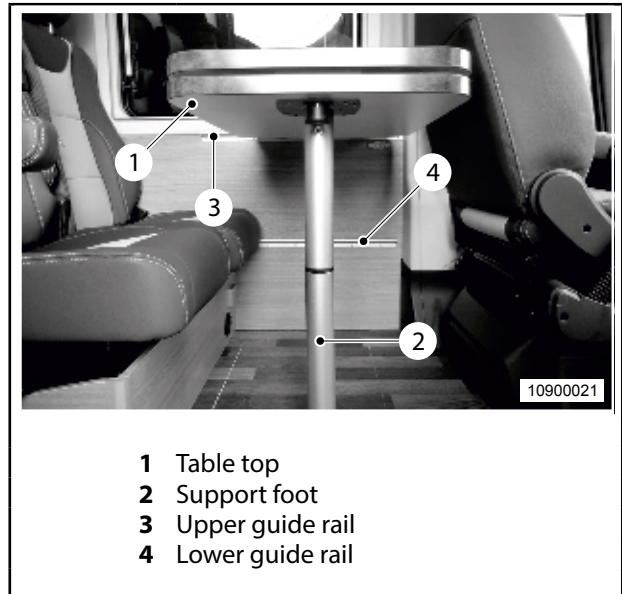

Fig. 45 Converting hook-in table into sleeping berth
1. Raise table top (Abb. 45, item 1) and remove lower part of support foot (Abb. 45, item 2).
2. Unhook table top (Abb. 45, item 1) from top guide rail (Abb. 45, item 3) and hook and lock it into lower guide (Abb. 45, item 4).